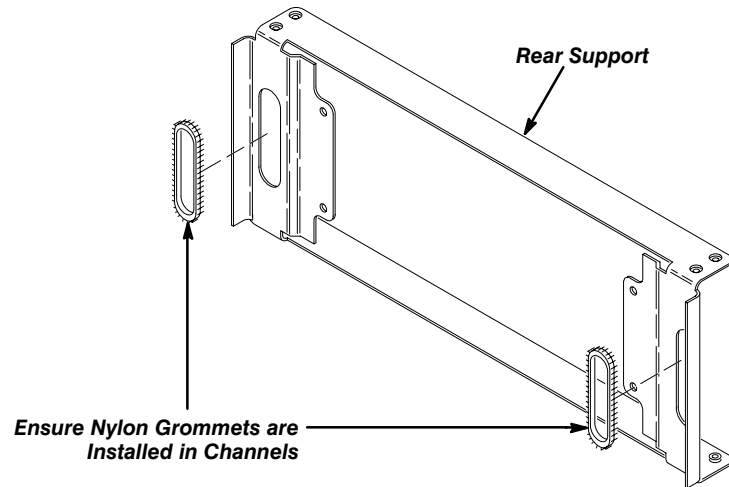

Figure 15: Nylon Channels Installed in the Rear Support
- b. Ensure that the nylon channel grommets are properly installed into the channels in the rear support (see Figure 15).
- b. Ensure that the nylon channel grommets are properly installed into the channels in the rear support. See Figure 15 on page 19.